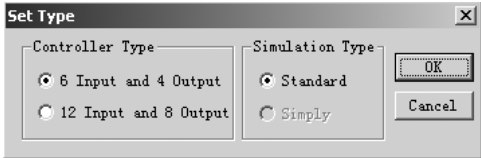

Fig 4.2
2. Now a dialogue box will appear, as shown in Fig 4.2: